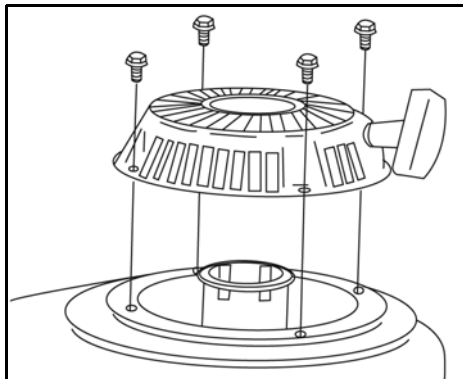

Figure 9
- Remove screws and blower housing (Figure 9).